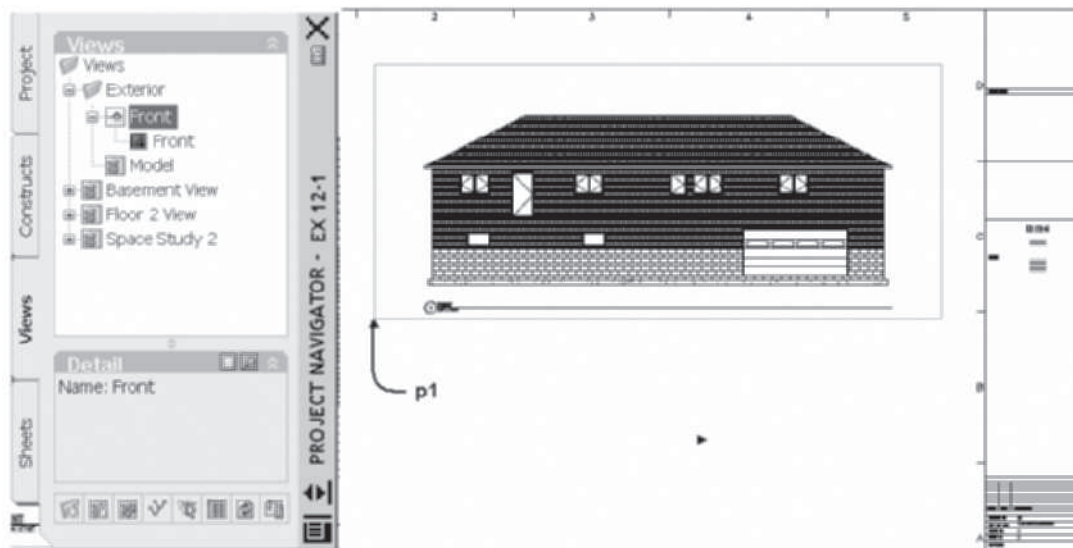

FIGURE 12.66 Placing the Elevation on a sheet
10. Select the **Views** tab, expand the Exterior category, select and drag the **Front** view into the **A-12 Front Elevation** sheet. Select a point near **p1** as shown in Figure 12.66.